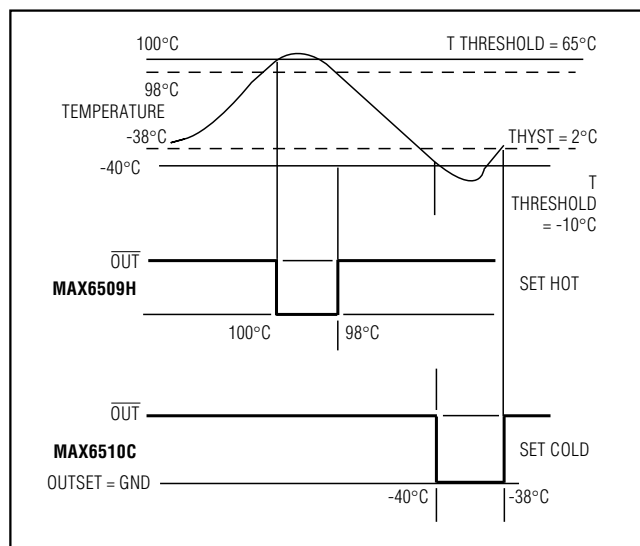

Figure 4. Temperature Response
Choose the set-hot temperature (H) or set-cold temperature (C) option to ensure that the trip point is accurate and the hysteresis is in the right direction. A MAX6509 or MAX6510 with the H suffix will first trip at the correct point when temperature is increasing. For example, a MAX6509HAUK-T or MAX6510HAUT-T with its trip point set to 100°C will assert when its temperature rises above +100°C, and will not deassert until its temperature drops below +100°C minus the selected hysteresis value (e.g., +98°C if 2°C hysteresis is chosen). Conversely, if the trip temperature of a MAX6509CAUK-T or MAX6510CAUT-T is -40°C, the output asserts at -40°C as temperature falls, and deasserts when temperature rises above -40°C plus the hysteresis value (e.g., -38°C if 2°C hysteresis is chosen) as shown in Figure 4.